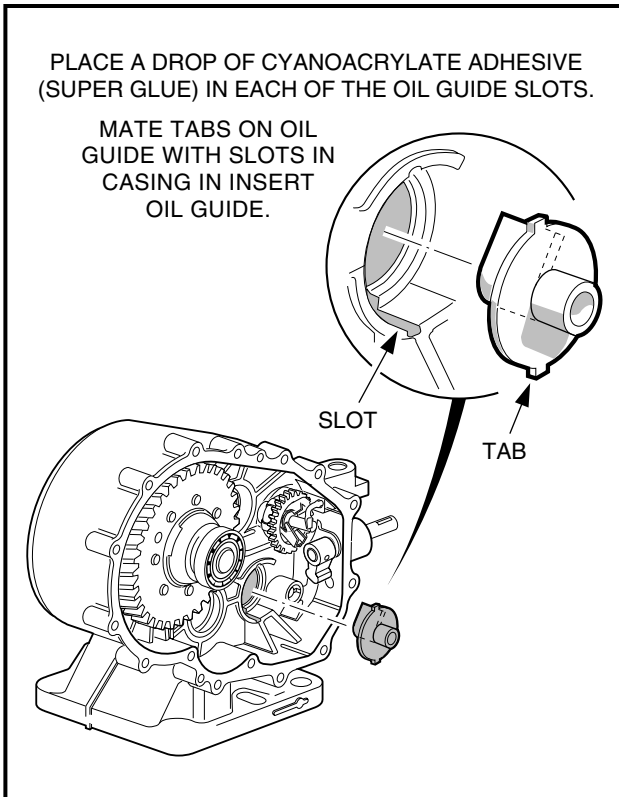

FIGURE 10-76
- 7.3. Place a drop of Cyanoacrylate adhesive (Super Glue) in each of the oil guide slots in the casing. Then install the guide with the baffle toward the casing wall as shown (**Figure 10-76, Page 64**). Make sure that the two tabs on the guide are positioned in the slots in the casing.